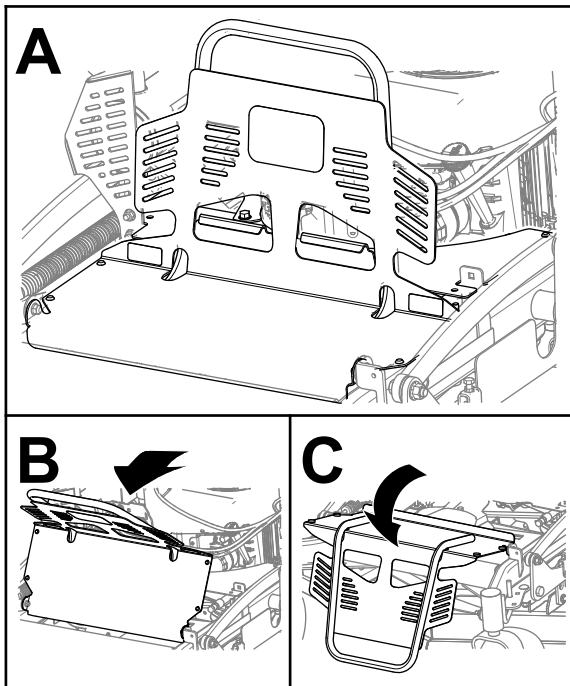

Figure 34
2. Rotate the engine guard forward as shown in Figure 34.